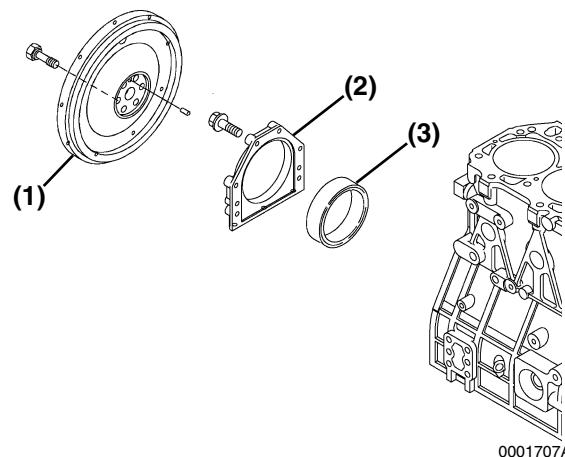

Figure 6-135
7. Apply ThreeBond Liquid Gasket No. 1212, Yanmar Part No. 977770-01212 to the mounting flange of the seal housing **(Figure 6-135, (2))**.
10. Reinstall the flywheel **(Figure 6-135, (1))** and tighten the bolts to the specified torque. See *Special Torque Chart* on page 6-23 for specifications.